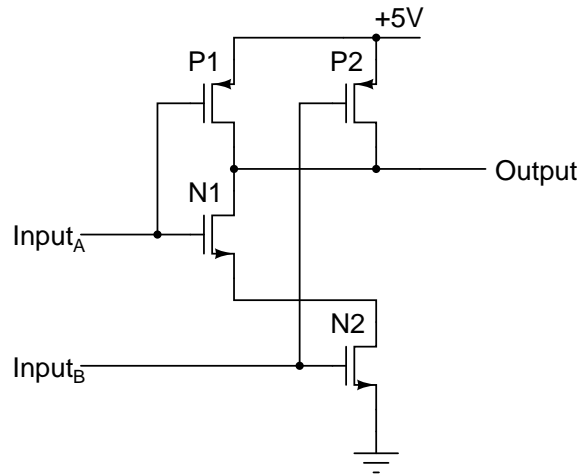

Figure 2.1: 2-input CMOS NAND gate.
**Exp (LTSPICE 8.1). 3-input CMOS NAND gate.** Figure 2.1 shows a 2-input complementary metal-oxide-semiconductor (CMOS) NAND gate. It consists of two n-channel MOSFETs, N1 and N2, connected in series, and two p-channel MOSFETs, P1 and P2, connected in parallel. This gate can be expanded to more inputs by appropriately adding additional pairs of complementary MOSFETs.